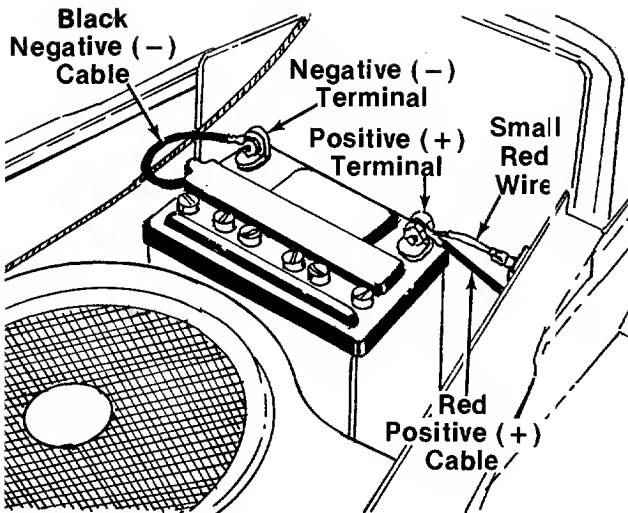

FIGURE 1.
2. Attach the positive cable (heavy red wire) and the small red wire (from the circuit breaker) to the positive battery terminal (+) with a $1/4$ -20 x $3/4$ " long bolt, lock washer and hex nut provided in the battery pack. See figure 1.